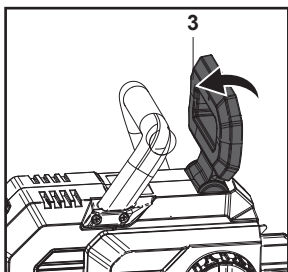

Fig. 16: Disengage the chain brake
**Disengage the chain brake:** When the chain brake lever (3) is in the disengaged position, the product can be operated with running saw chain (Fig. 16).